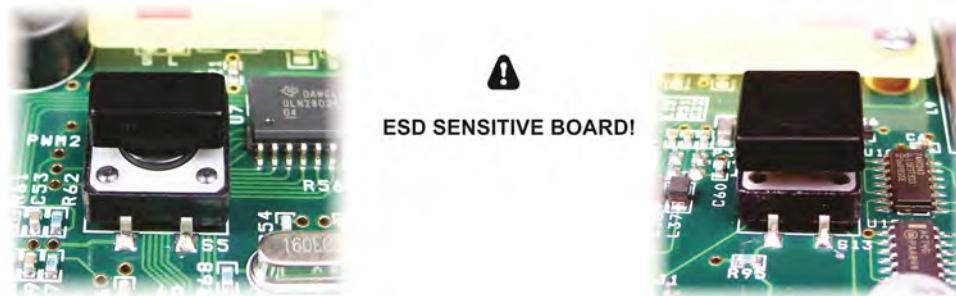

Figure 57. Installing Key Caps on Front Panel Board.
- Remove the front panel board from its ESD-safe envelope. Take care not to disturb the alignment of the LEDs. Install the single square and 18 rectangular key caps as shown in Figure 57. The key caps simply push onto the shafts of the switches. Be sure you install the rectangular caps horizontally so they will fit through the openings in the front panel sheet metal.